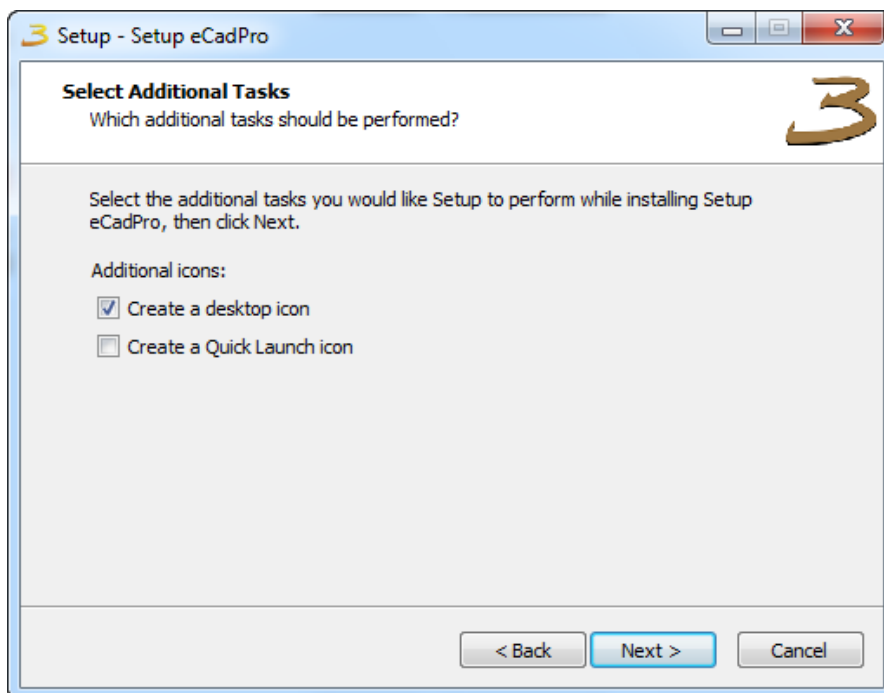

Figure 2.5: To create the Desktop/Quick start icon.
- c) If you want to create the **3cadevolution** icon on the desktop or in the quick start bar, check the appropriate box and click on **Forward**, see figure 2.5.